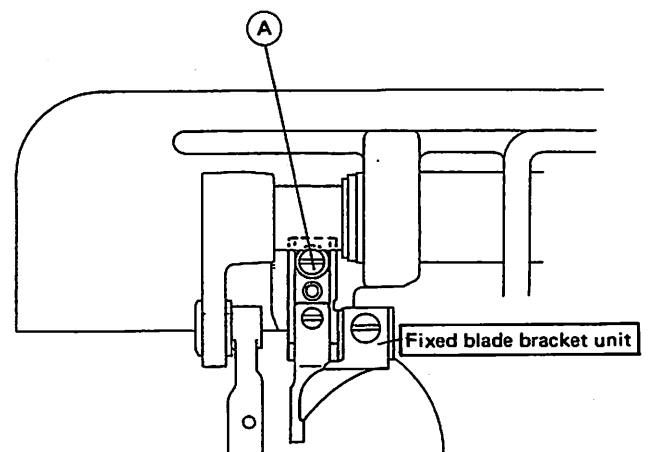

Fig. 3
- (1) As shown in Fig. 3, install the fixed blade bracket unit with the hook positioner dismantled, and then fix with the screws (A).